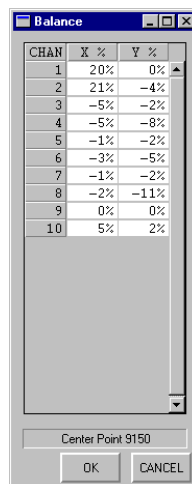

Figure 3-26. Balance Dialog
- **Util > Display Util > Show Balance (F10):** Selecting the **Show Balance** function displays the **Balance** dialog shown in Figure 3-26. Each percentage listed represents the amount of offset compensation the balance function applied to each X and Y component per channel (including mixes) in order to center the data. A perfectly balanced condition, yet extremely rare, would show all '0%' values. This is a handy tool for checking the adequacy of a probe and test frequency combination. At the bottom of the window, the 'Center Point' value is the data point at which the last balance function was performed.